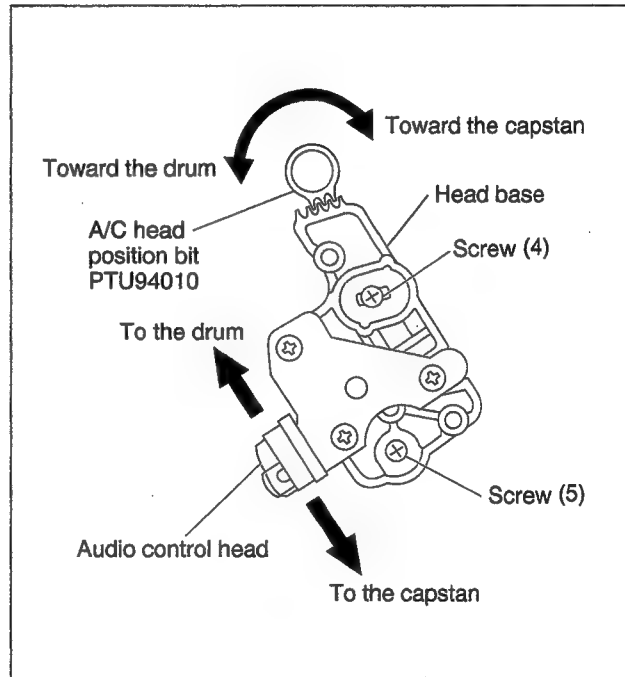

Fig. 2-4-6
- (1) Connect the oscilloscope to TP106(PB FM/COL) of the main board assembly and to TP111(D.FF) of the main board assembly for external sync connection.
- (2) Play the alignment tape MHPE and observe the FM waveforms.
- (3) Press the channel buttons (+) and (-) buttons simultaneously during playback to enter the manual tracking mode (This also brings tracking to the center.)
- (4) Loosen screws (4) and (5) so that the A/C head position bit (PTU94010) is set as indicated in Fig.2-4-6.
- (5) Turn the A/C head position and first move the audio control head fully up to the capstan head. Then gradually return the audio control head toward the drum and stop it where the FM waveform reaches its maximum for the first time. Then tighten screw (4) temporarily.
- (6) Then play the alignment tape MHPE-L.
- (7) Press the channel buttons (+) and (-) buttons simultaneously during playback to enter the manual tracking mode (This also brings the tracking to the center.)
- (8) Perform the tracking operation and make sure that the FM waveform is at its maximum.
- (9) If it is not at maximum, loosen the temporarily tightened screw (4) and turn the A/C head position bit to bring the audio control head to a position, around where the waveform reaches its maximum for the first time. Then tighten screws (4) and (5).